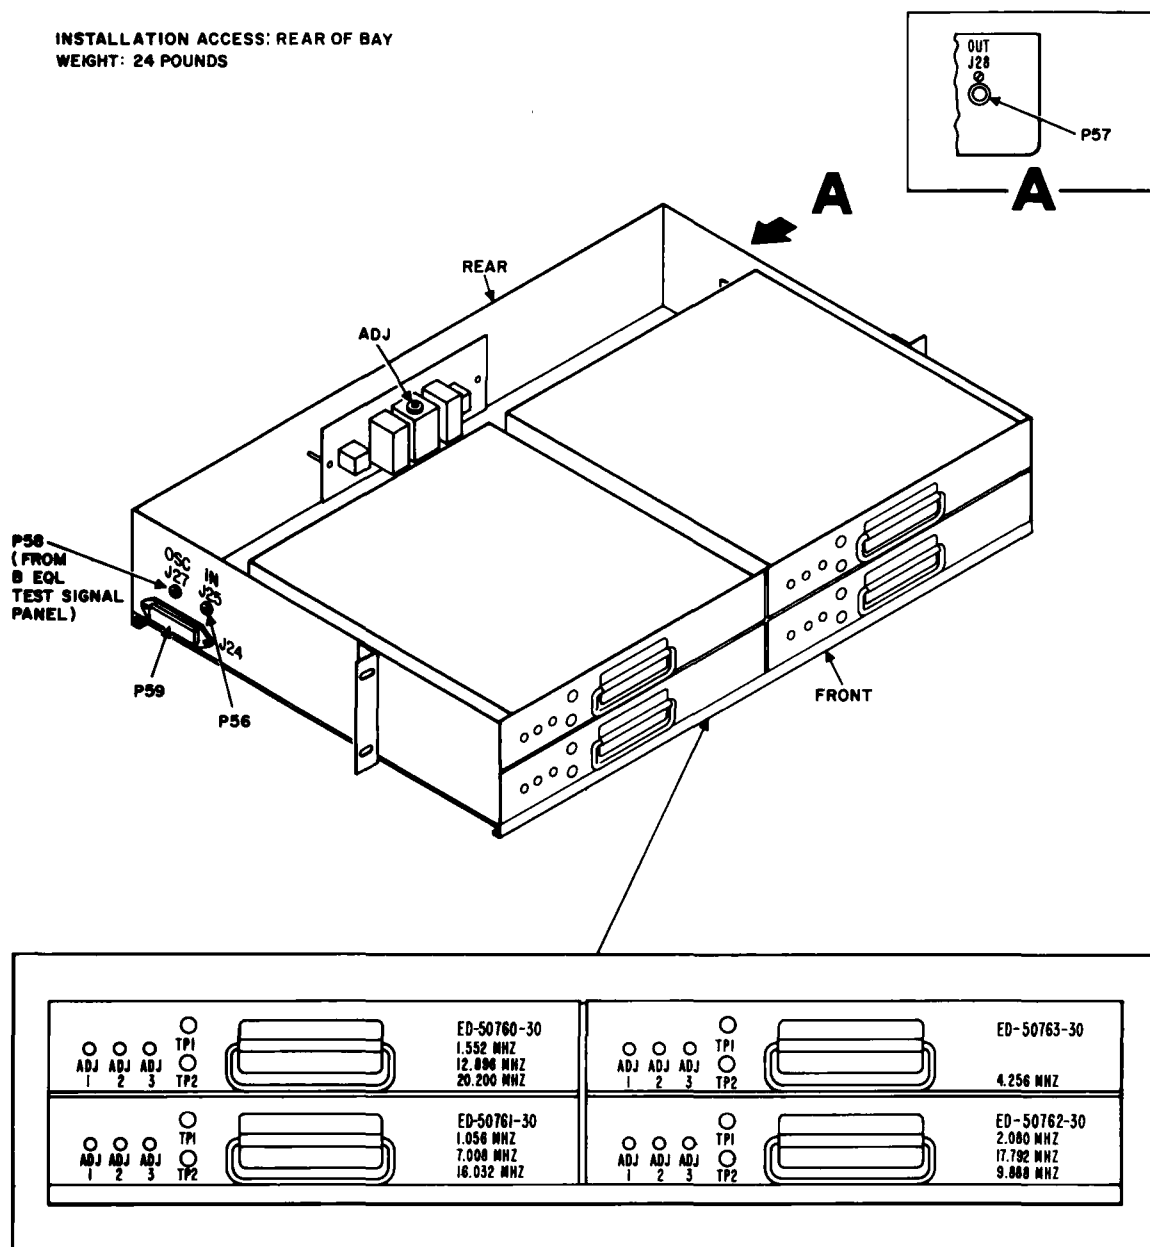

Fig. 12—B Equalizer J68877AU
A. B Equalizer J68877AU (Fig. 12)**Replacement Procedure**
6	Measure the resistance between test points TP1 and TP2 on each of the four drawers (Fig. 12) using a Western Reserve digital passive scaler. Note: A false indication may be obtained if another digital passive scaler is used. Requirement: Within 0 and -15 ohms of the value stamped near the test points on each drawer Note: If the resistances are within the requirements, the equalizer networks are stabilized at the required operating temperature.
11	Remove the B equalizer mounting screws and slide the B equalizer back far enough to gain access to the ADJ control (Fig. 12).